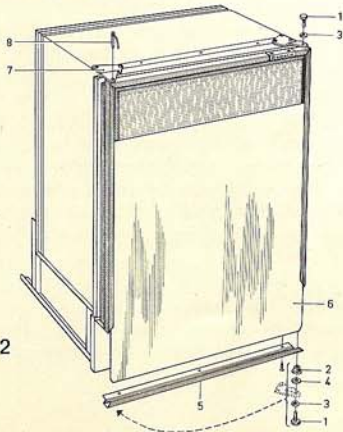

Fig. 2
unscrew and remove the hinge bolts (1), Fig. 2. Transfer the lower nylon bushing (2) and the washers (3) and (4) (be sure to place them in the correct order) to the opposite end of the door frame. Insert the bolts through the opposite hinges (7) and screw in place. The small hinge pin (8) with its chains is then transferred to the opposite top hinge to be used for securing the door during traveling.
unscrew the top hinge bolt (1), Fig. 2. Pull out the bolt and lift off the door. Remove the screws holding the bottom member of the aluminium door frame (5). Pull out the outer door panel (6), replace panel, re-assemble and refit the door.